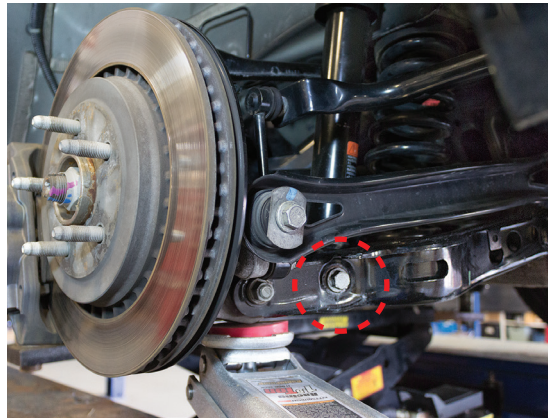

fig. D.4
5. Take out the lower shock bolt (Fig. D.4). Remove the shock.